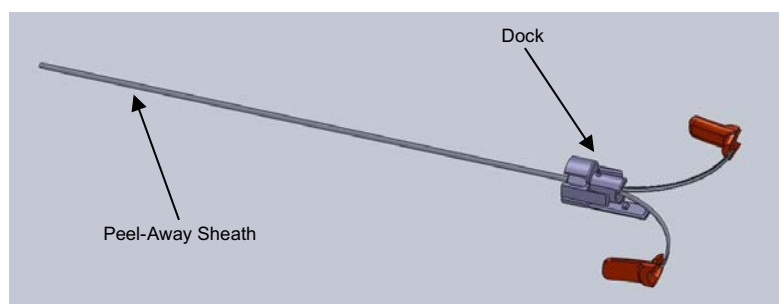

Figure 19: Dock and Peel-Away Sheath
11. Insert the Lancet into the Peel-Away Sheath until the pointed end protrudes approximately one (1) to eight (8) millimeters. A slight resistance should be felt. If the Depth Stop interferes with the Sheath before the Lancet can be fully inserted, peel the sheath away further until the Lancet can be fully inserted.
14. Set aside the measured Stylet. Remove a Peel Away Sheath from the Accessory Kit and separate the hub and peel away approximately one (1) inch of the Sheath. Place the Peel-Away Sheath through the Dock.
15. Insert the peeled Sheath sides into the grooves of the Dock. **See Figure 19.**